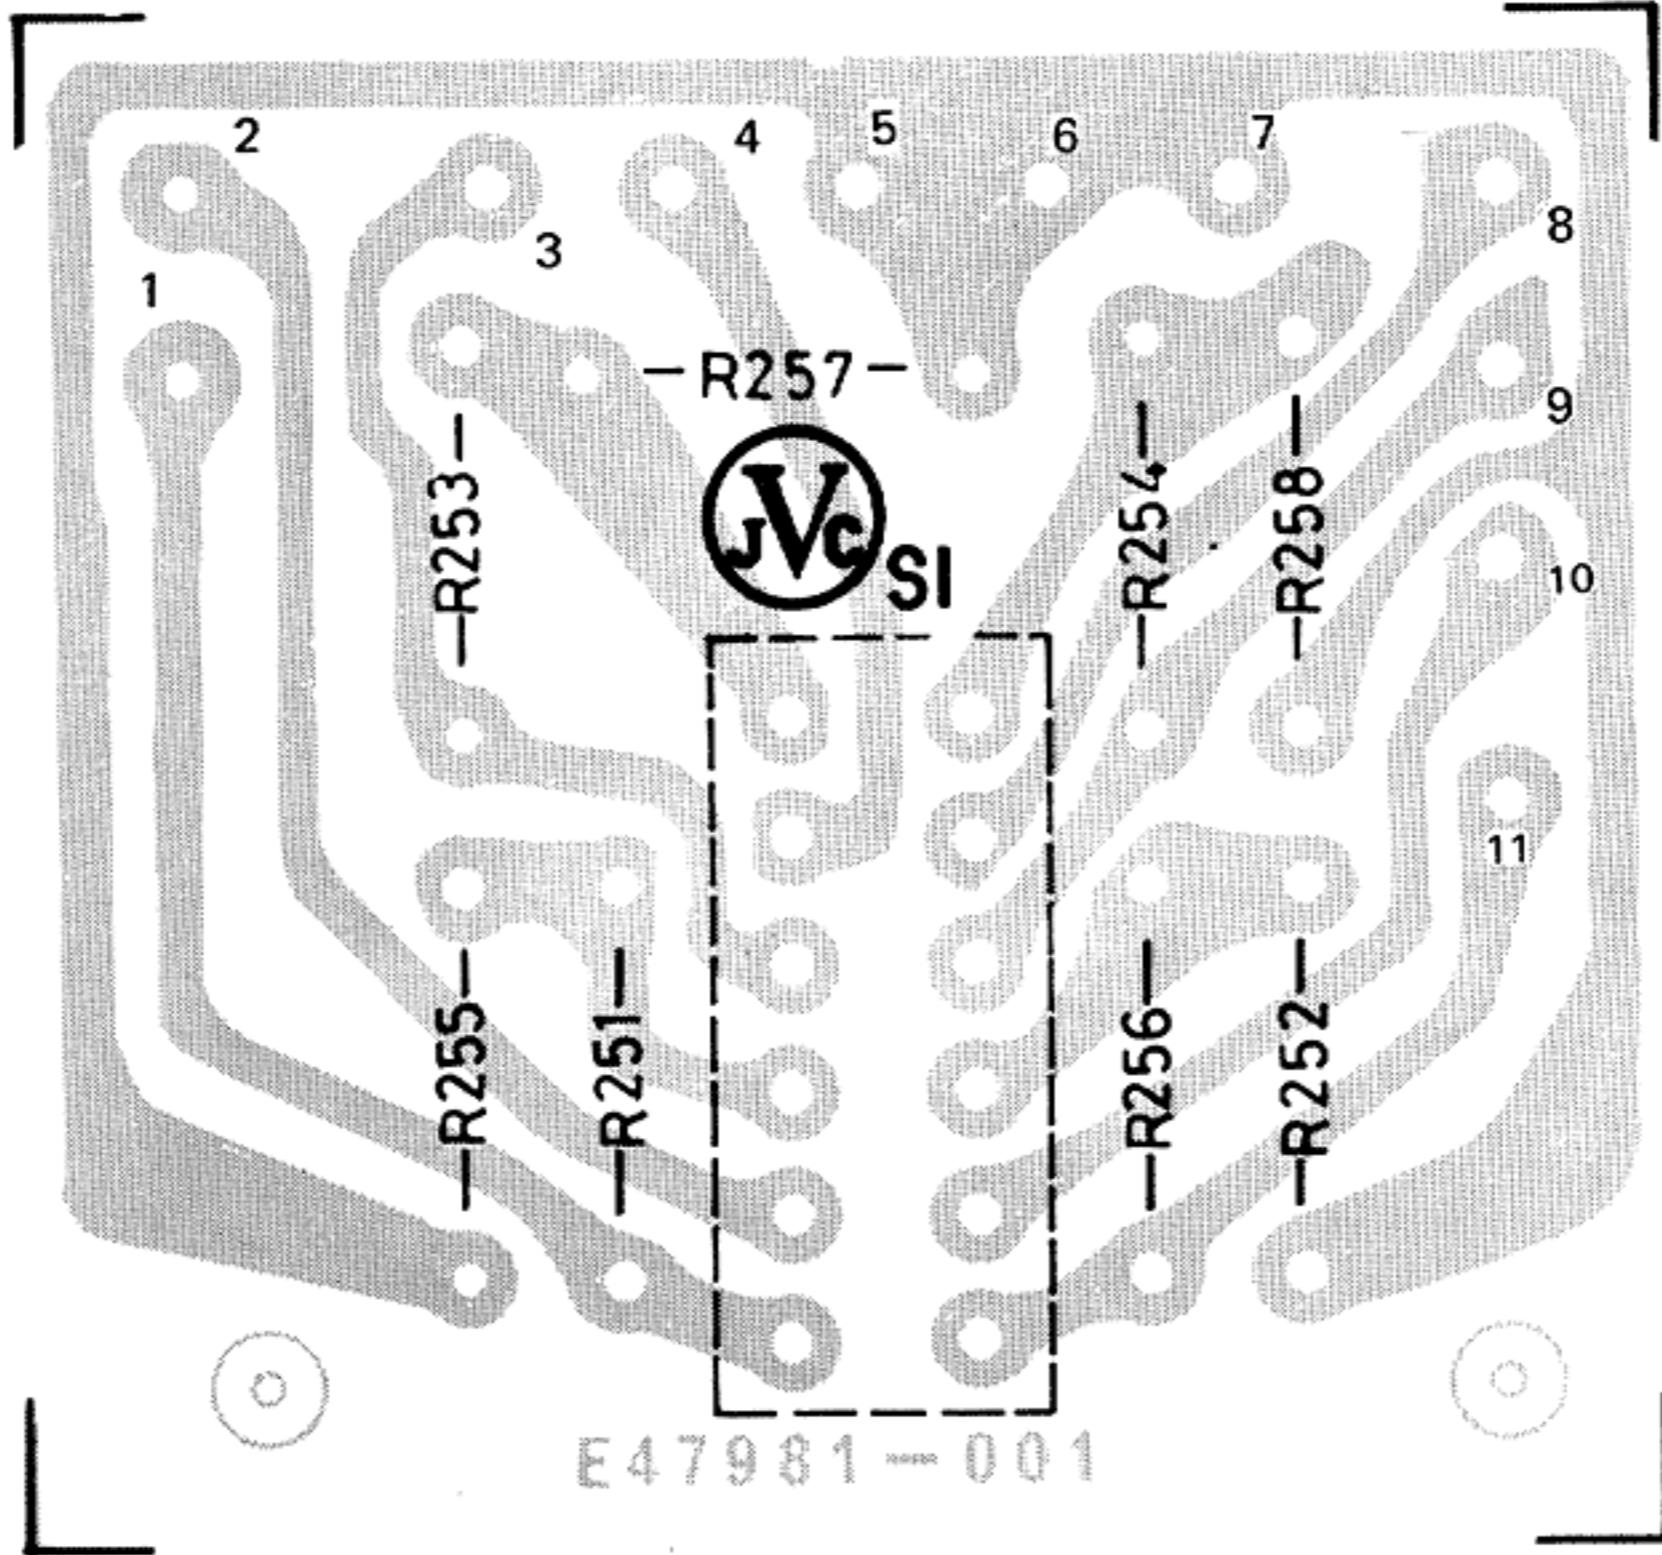

Fig. 20
**WIRE CONNECTION** (Fig. 20, 21)